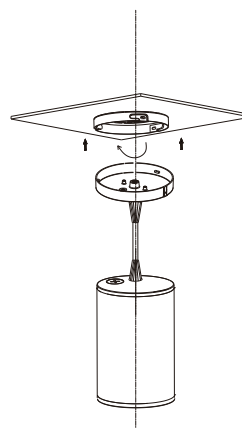

Fig 16
5. Rotate and snap the light onto the ceiling tray. (Fig 16)